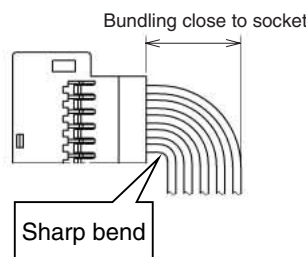

Fig. 3-2
- * When bundling at the distance less than the recommended 20 mm, it is critical to avoid sharp bend radius (Fig. 3-2) or apply stretching or twisting forces (Fig. 3-3)